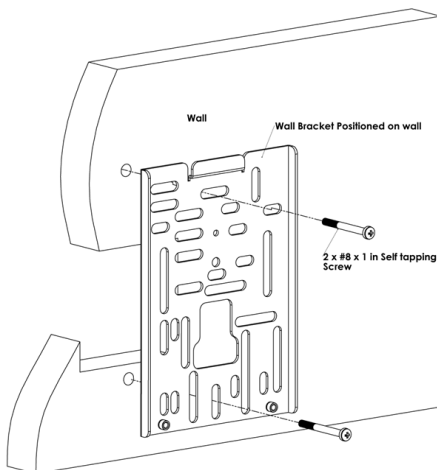

Figure 5. Mounting the Universal Wall Bracket
4. Affix the universal wall bracket to the wall with two screws, as shown in Figure 5.